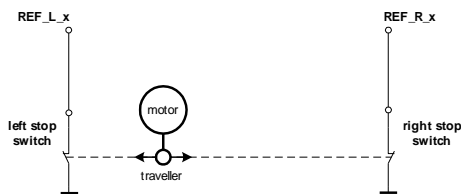
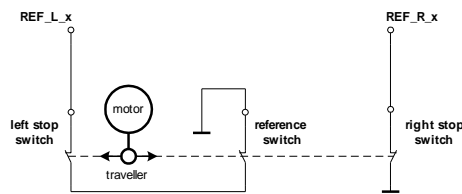

Figure 8.1: Two limit switches
Figure 8.2: Limit switches with extra reference switch
- In Figure 8.1 the connection of the left and the right limit switch is shown. Figure 8.2 shows the connection of three switches as left and right limit switch and a reference switch for the reference point. The reference switch is connected in series with the left limit switch. The differentiation between the left limit switch and the reference switch is made through software. Switches with open contacts (normally closed) are used.